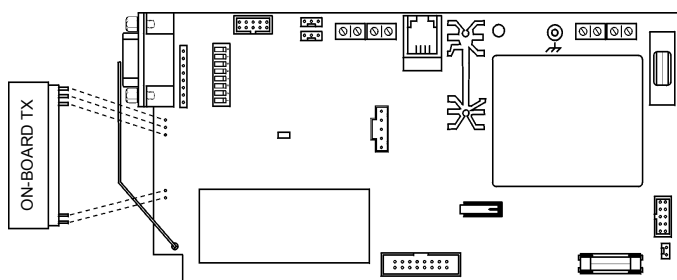

Figure 3: Plugging in the On-Board Transmitter
5. To support the INF-WES, the infinite's Main board must have the on-board transmitter installed. Plug the on-board transmitter into the control panel's Main board as shown in Figure 3.